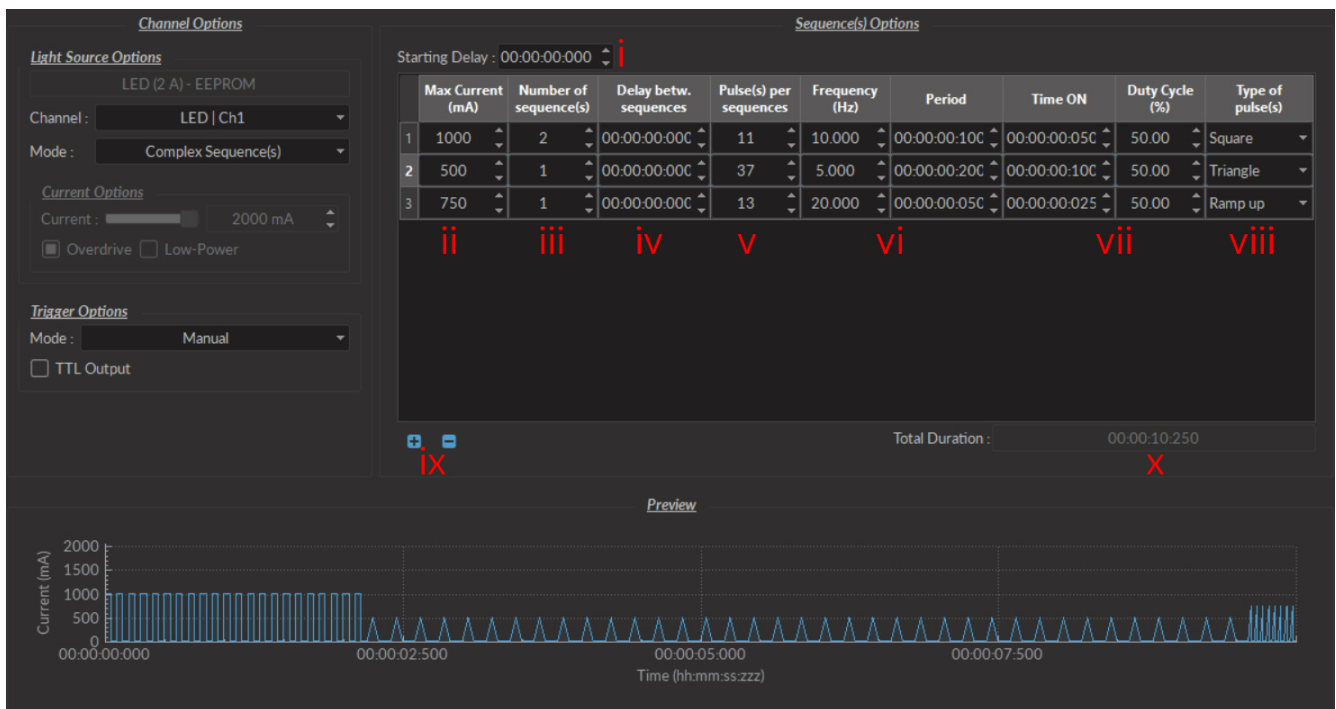
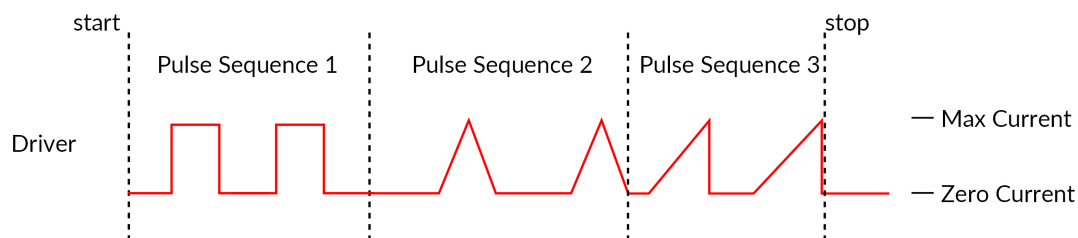

Figure 4.8: Complex Sequences Window
Figure 4.9: Internal Complex Mode Pulse Sequences
- The **Starting Delay** (Fig. 4.8) sets the delay (in hh:mm:ss:zzz format) before the first pulse sequence.
- The **Max Current** (Fig. 4.8) sets the maximum current (in mA) for the given sequence.
- The **Number of sequences** (Fig. 4.8) sets the number of times that the sequence will be repeated, with a minimum of 1.
- The **Pulses per sequence** (Fig. 4.8) sets the number of pulses per sequence, with a minimum of 1.
- The **Delay between sequences** (Fig. 4.8) sets the delay (in hh:mm:ss:zzz format) between each sequence if the **Number of Sequences** is greater than 1.
- The **Frequency/Period** (Fig. 4.8) sets the frequency (in Hz) or period (in ms) for the pulse sequence. These two values are linked, and when one is changed the other will adjust automatically. For example, a signal at 10 Hz (frequency) will output one pulse every 100 ms (period), whereas a pulse sequence at 0.5 Hz (frequency) will output one pulse every 2000 ms (period).
- The **Time ON/Duty Cycle** (Fig. 4.8) sets the time (in ms) or the duty cycle (in %) for each pulse. These two values are linked, and when one is changed the other will adjust automatically. The **Time ON** must be lower than $(1/\text{frequency}) + 0.005$ ms, while the **Duty cycle** must be below 100 %.
- The **Types of pulses** (Fig. 4.8) sets the pulse type. Pulses can be **Square**, triangular (**Triangle**), **Ramp up** **Ramp down** or **Delay** (Fig. 4.9). The **Delay** pulse type is used to create a delay between different sequence
- ix. The **Sequence controls** (Fig. 4.8) allow the addition (+) or removal (-) of sequences to the spreadsheet.
- x. The **Total Duration** (Fig. 4.8) displays the total time of the experiment. The different values can be *Inf* for infinite, a valid time value or *Err* if the **Time ON** value is greater than 1/frequency.